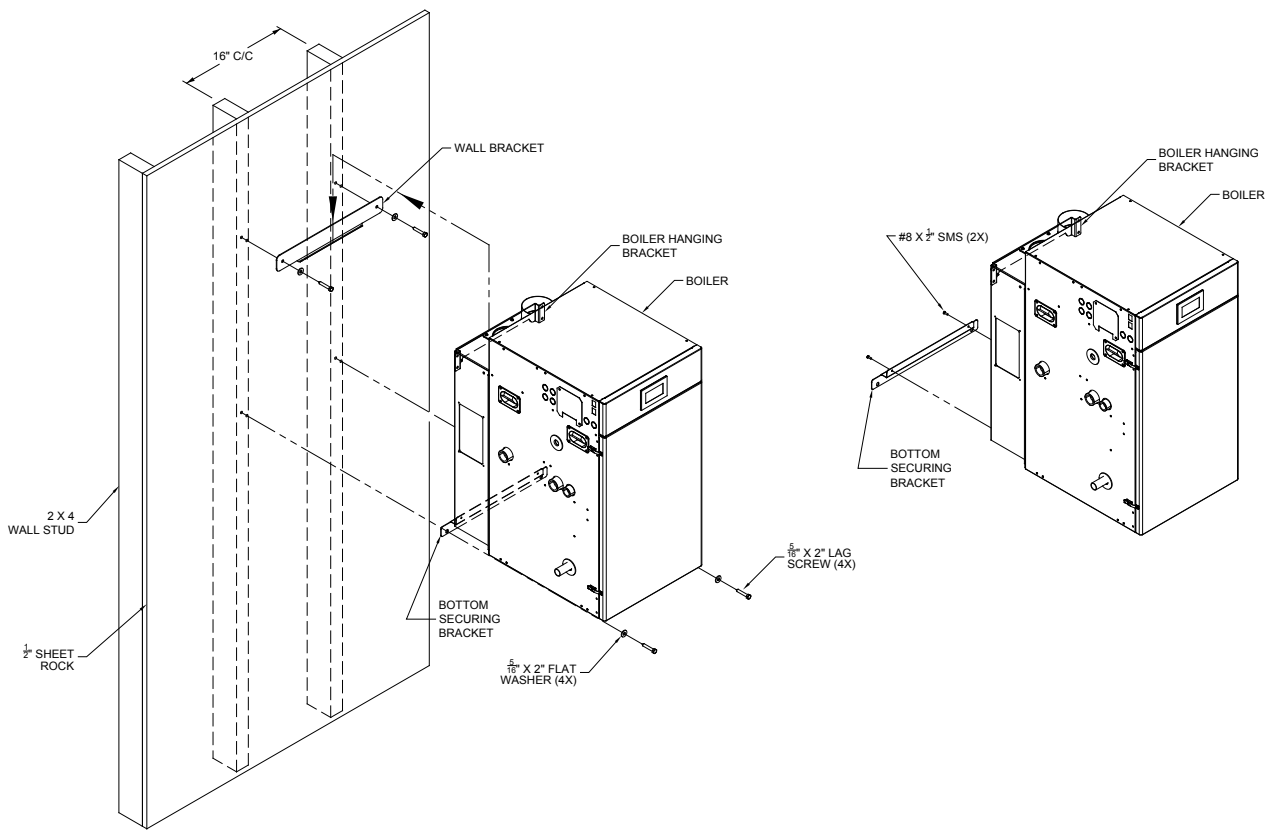

Figure 3-4: Bottom Mounting Bracket Installation / Boiler Wall Mounting
- h. Attach the wall hanging bracket using the 5/16 in. x 2 in. lag screws and 5/16 in. plated washers, or other suitable anchors as appropriate (Figure 3-4). Make sure the bracket is level.
- i. Attach Bottom Securing Bracket to boiler air box with two #8 x ½ in. Phillips round head sheet metal screws. Refer to Figure 3-4 for details.
- j. Hang the boiler on the installed wall bracket as shown in Figure 3-4.
- k. If not already done in Step (f) locate and drill holes “C” and “D” using the ob-round slots in the Bottom Securing Bracket. Secure the Bracket to the wall using the 5/16 in. x 2 in. lag screws and 5/16 in. plated washers, or other fasteners as appropriate (Figure 3-4).